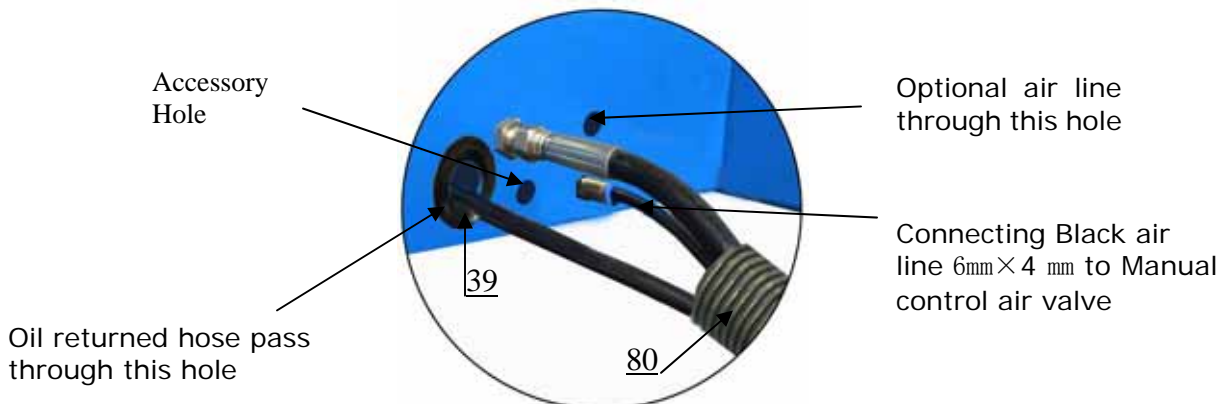

Fig. 27
3. Connect the oil hose and air lines (See Fig. 27).